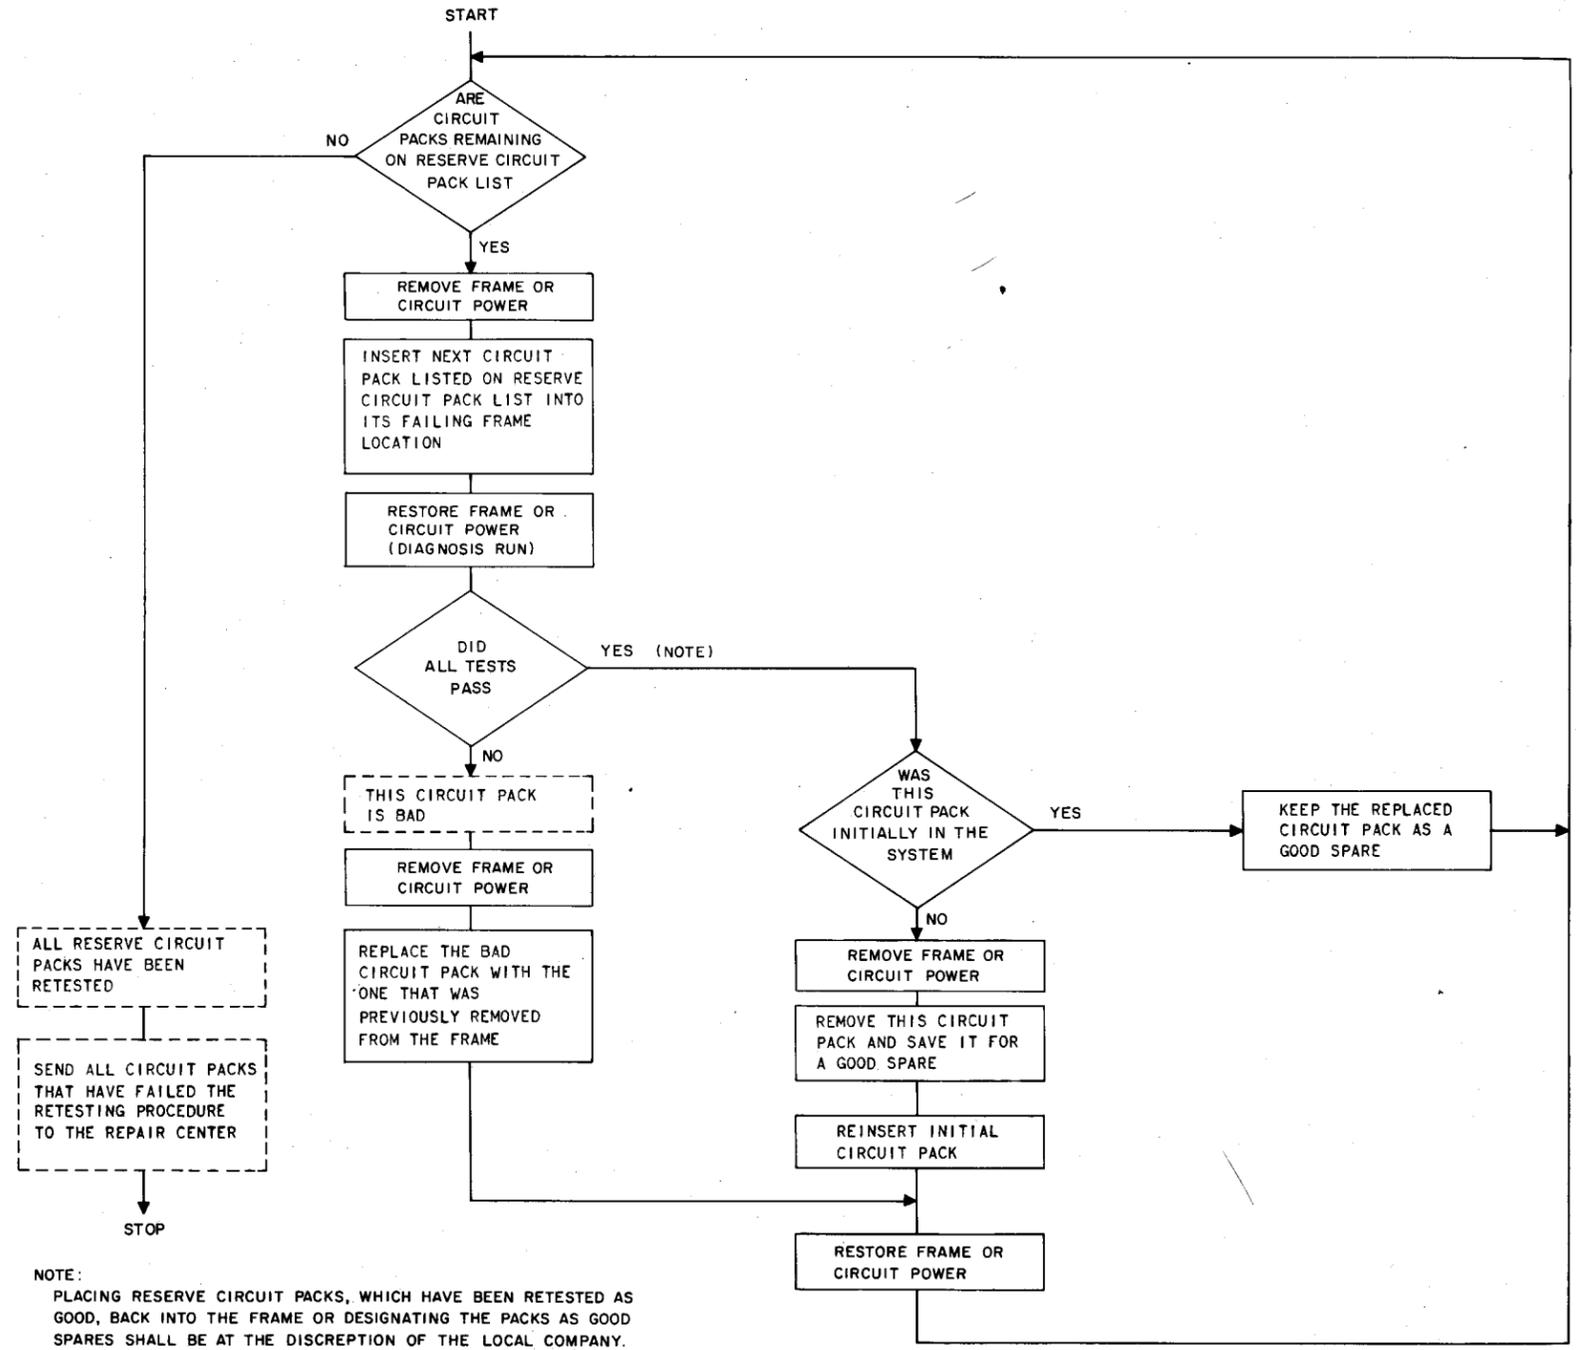

Fig. 12—Procedure for Retesting Reserve Circuit Packs
**7.17** To retest circuit packs listed on the reserve circuit pack list, use the flowchart procedure given in Fig. 12.